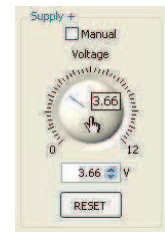

Figure 7
18. Vary the Variable Power Supplies' positive output voltage by using the mouse to "grab and turn" the *Voltage* control shown in Figure 7.